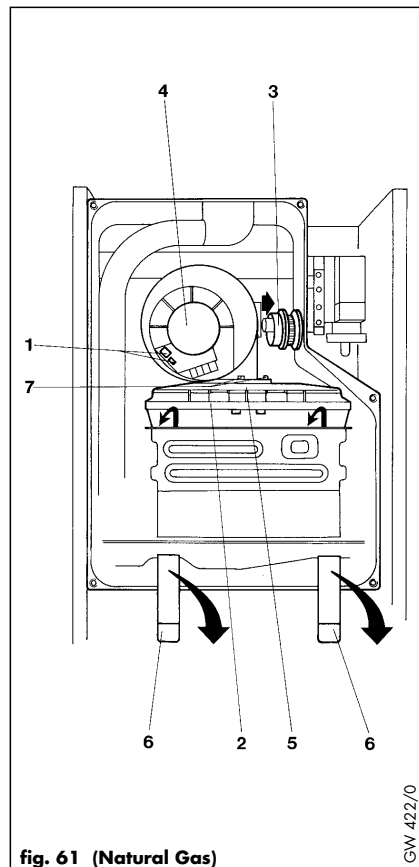

fig. 61 (Natural Gas)
- Remove the 2 fan securing bolts (7, fig. 61).
- Remove fan inlet restrictor (3, fig. 61) and fit to new fan.
fig. 61 a (Propane)